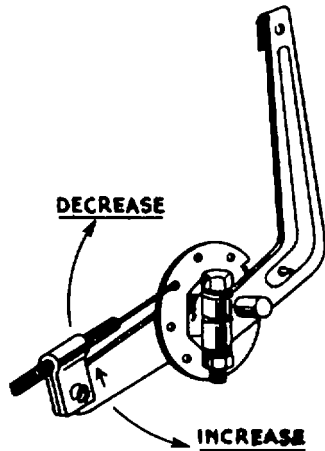

Figure 8
- Operating speed range can be changed by moving throttle as shown in Figure 8.